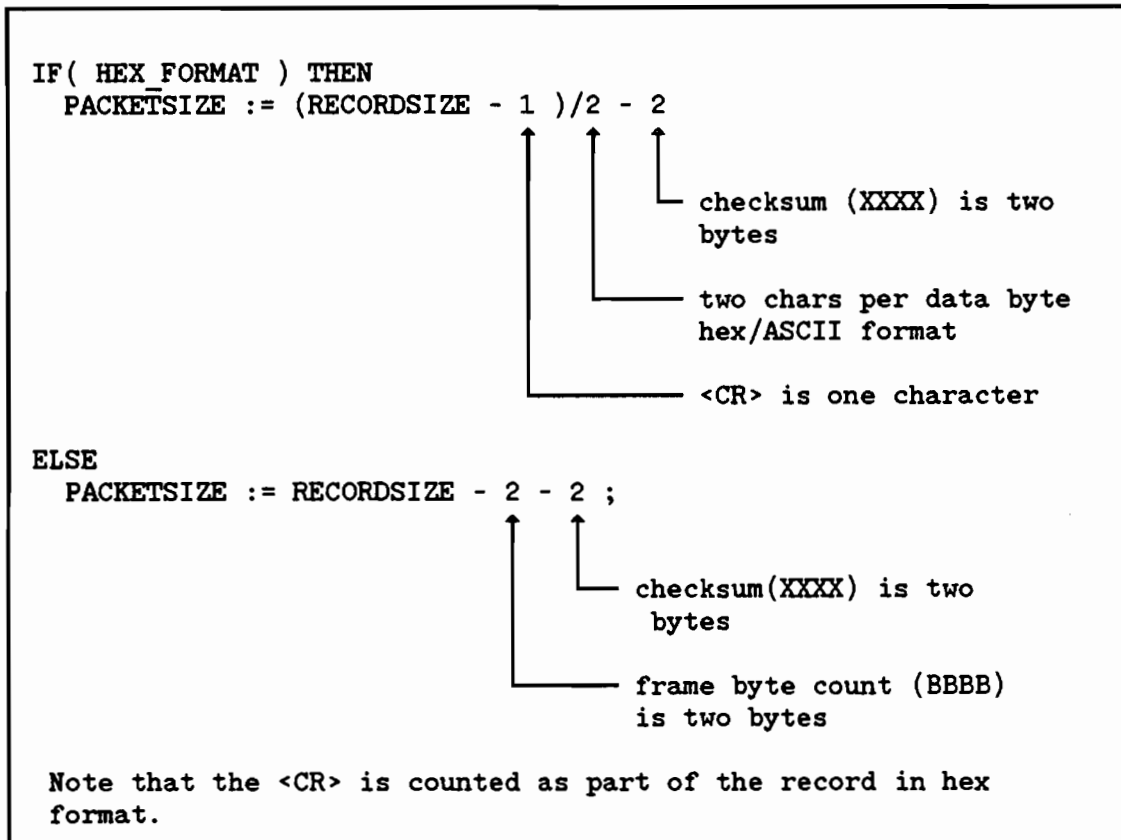

Figure 6-2. Packet Size Calculation
The minimum size for binary transfers is seven (7) bytes. The minimum size for hex/ASCII transfers is 11 bytes. The calculations of maximum number of data bytes sent per packet (PACKETSIZE), rr..rr, given the remote device input buffer size in bytes (RECORDSIZE), is shown in figure 6-2.